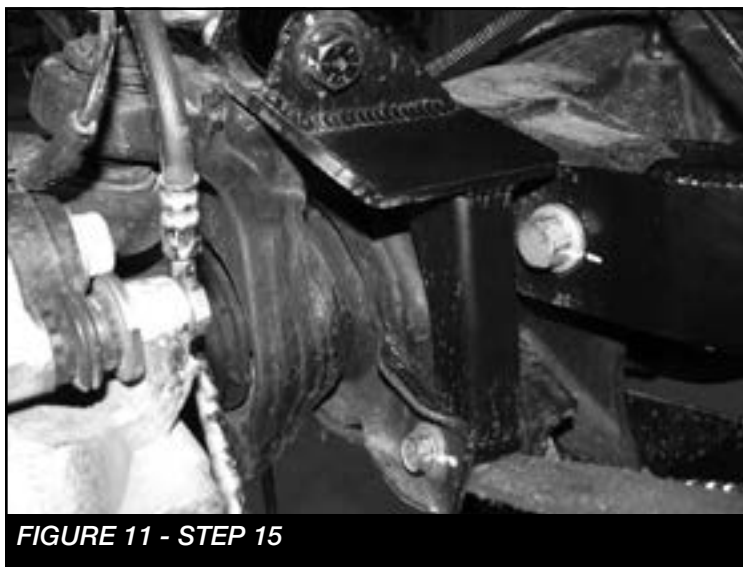

FIGURE 11 - STEP 15
15. Install FT30717 (Driver lower coilover mount) onto the driver side of the axle using the factory shock hardware at the factory shock location and M14 X 30mm bolt and washer at the lower spring perch location. Torque factory hardware to 100 ft-lbs and M14 to 160 ft-lbs. SEE FIGURE 11. NOTE: If installing on an 8" kit, refer to Step 25 for installation of the lower sway bar relocation bracket.